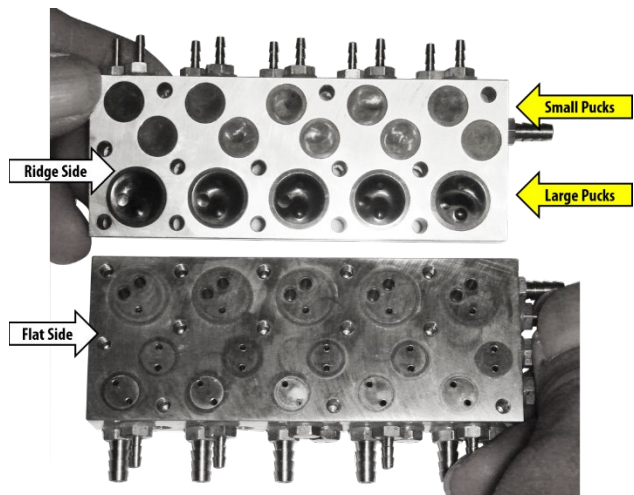

Fig. 4. Five-position Control Block (inside view)
3. Remove existing diaphragm or pucks and replace with new. **(Fig.4)**
Hold one side of the Block and then carefully place the other side of the Block on top and align. Be careful not to misalign the diaphragm or dislodge any of pucks. **(Fig. 4)**